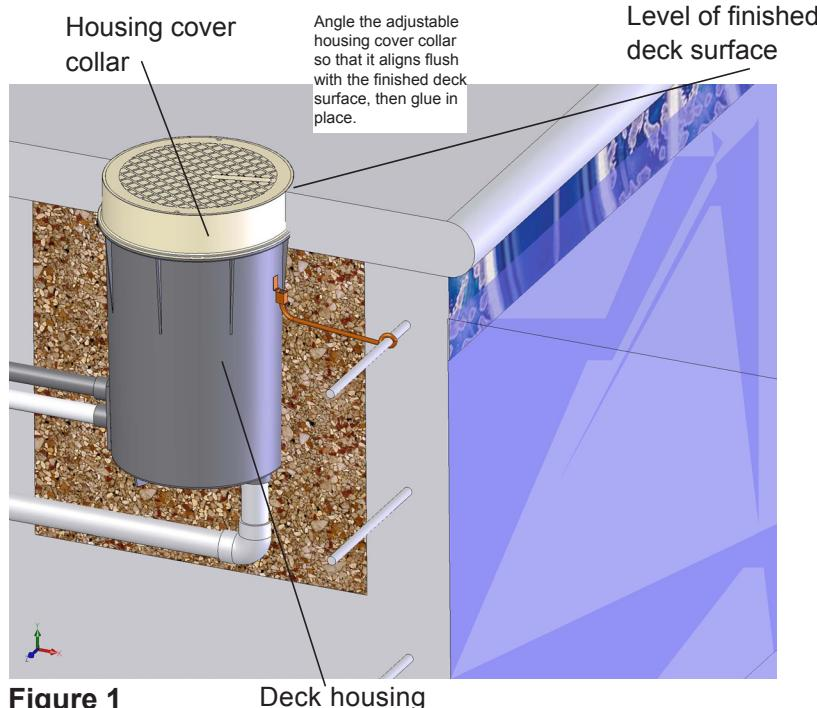

Figure 1
3. Anchor the deck housing so that the top of the housing cover collar is at the level of the finished deck (Figure 1). The adjustable collar should be angled so that it aligns flush with the finished deck surface. Once you have made the final adjustments to the collar's angle, glue the collar to the deck housing.